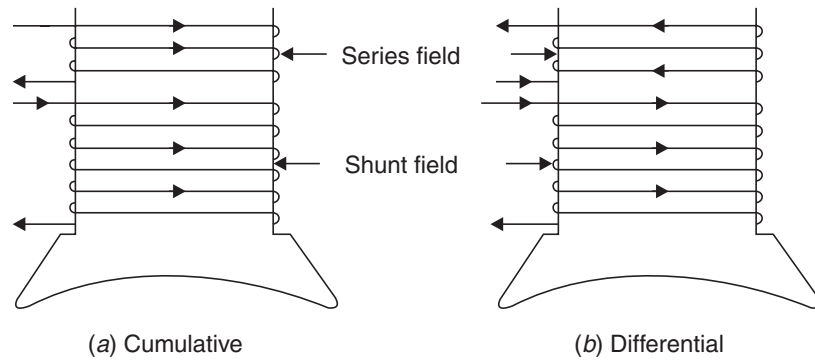

Fig. 43. Current directions in series and shunt-field coils of cumulative and differential-compound generators.
compounded' [see Fig. 43 (a)]. When the series field m.m.f. opposes the shunt field m.m.f., the generator is said to be 'differentially compounded' [see Fig. 43 (b)].
- The *differential compound generator* is defined as that compounding produced when the series field m.m.f. opposes the shunt field m.m.f. The difference in current direction of the two windings is shown in Fig. 43 (b), where for the sake of clarity, the series field winding is shown above (rather than directly around) the shunt field winding.